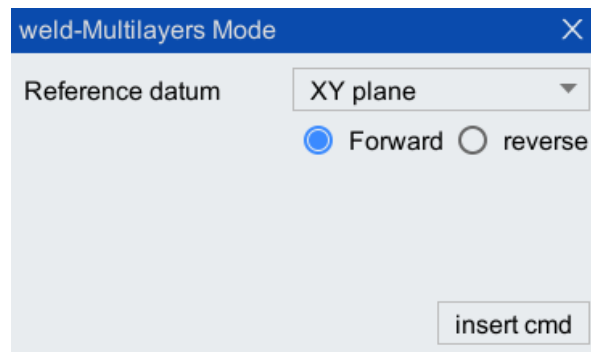

Figure 10-18 Multi-layer multi-channel mode instruction configuration interface
- Step2. Click [Insert cmd/Function Package/weld/ Welding Command/Multilayers Mode], configure [Reference datum] as "XY plane" in the pop-up configuration interface (as shown in Figure 10-18), and click to select [Forward]. After the configuration is complete, click <Insert cmd>.